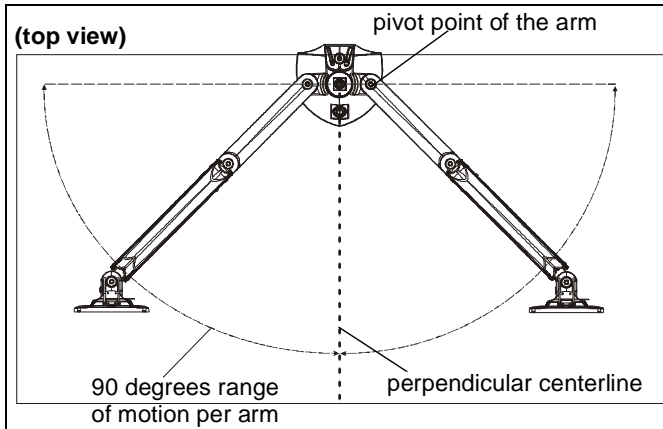

Figure 24
1. Adjust arm angles as desired within a 90 degree range from the pivot point of the arm and a perpendicular centerline of mount. (See Figure 24)